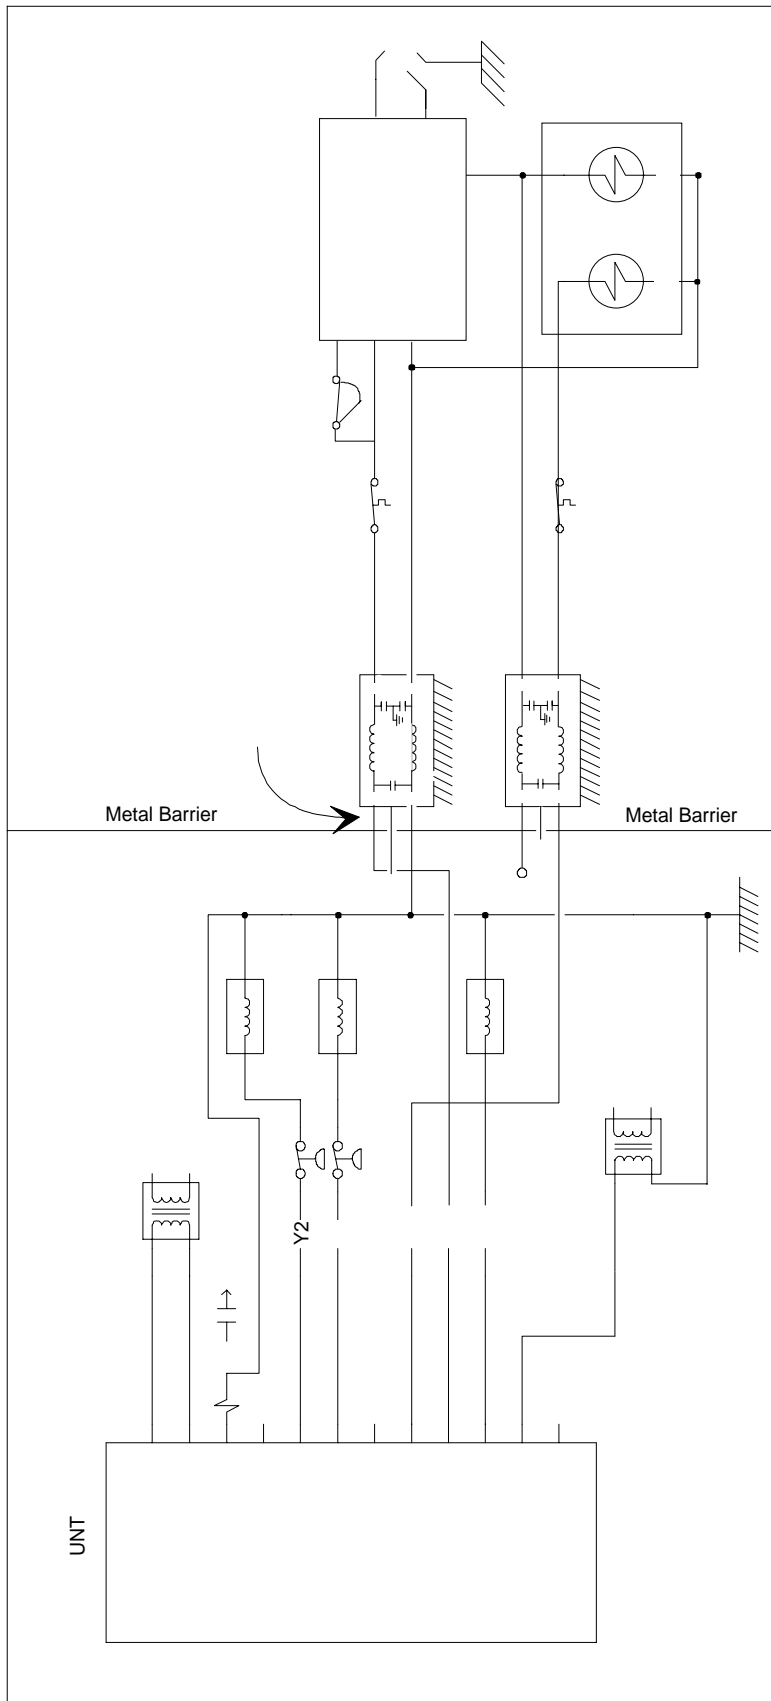
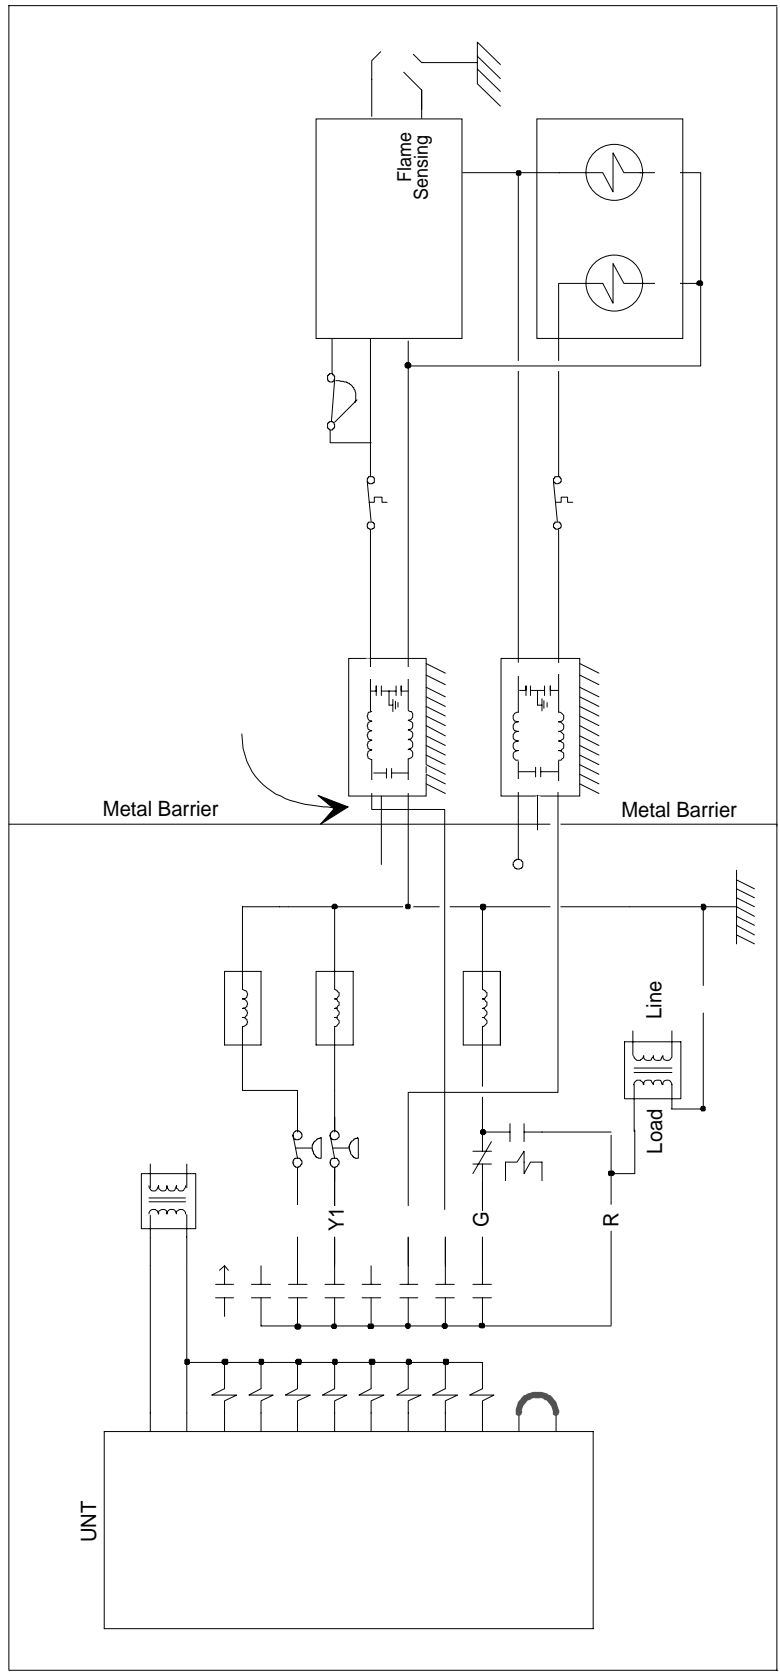

Figure 39: UNT Directly Driving Loads
Figure 40: UNT with Pilot Relays
3. **Drive rooftop unit loads via pilot relays** (see Figure 40) if **any** of the following conditions exists:
4. **You may drive rooftop unit contactor/relay loads directly** (see Figure 39) if **all** of the following conditions exist:
Rooftop Units containing Gas Ignition Control (see Figure 39 or Figure 40.)